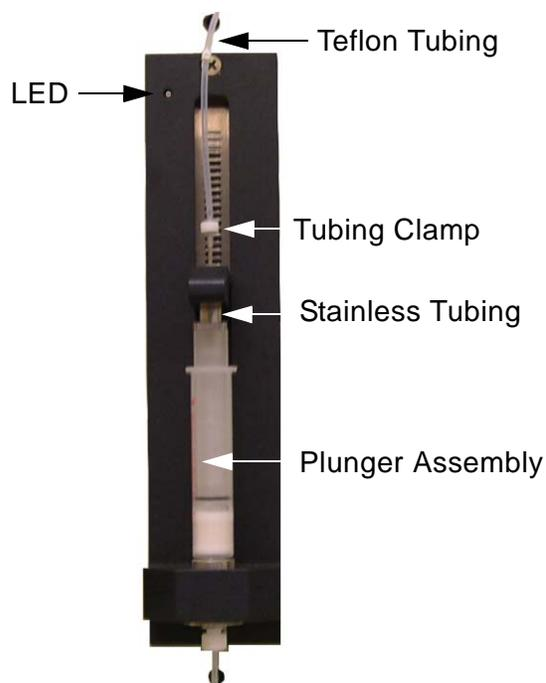

Figure 77. Tubing Clamp Movement
- 1 Slide the tubing clamp up so that it is no longer over the stainless steel tubing, as shown in Figure 77.
- 3 Unscrew the plunger assembly (see Figure 77) and pull it down to remove it from the column holder.